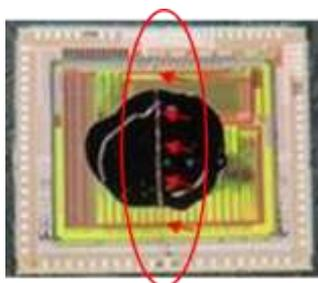

Fig. 2. Die crack after die pickup.
- The die used is relatively thin (70 μm) and die crack was encountered after die pickup as indicated in Fig. 2.